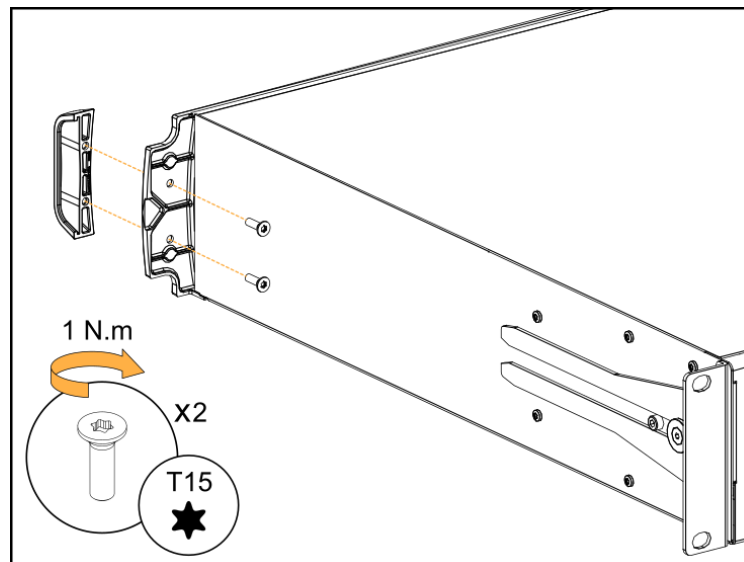

Figure 6: Mounting a FRONT HANDLE
1. Undo the two Torx® screws from the locations indicated in Figure 6.
2. Drive two Torx® screws to the locations indicated in Figure 6.